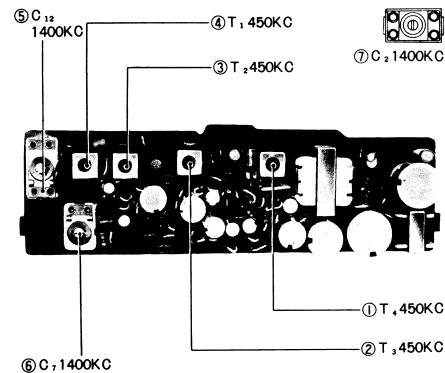

Fig. 8
(2) Adjusting procedure (See Fig. 8)